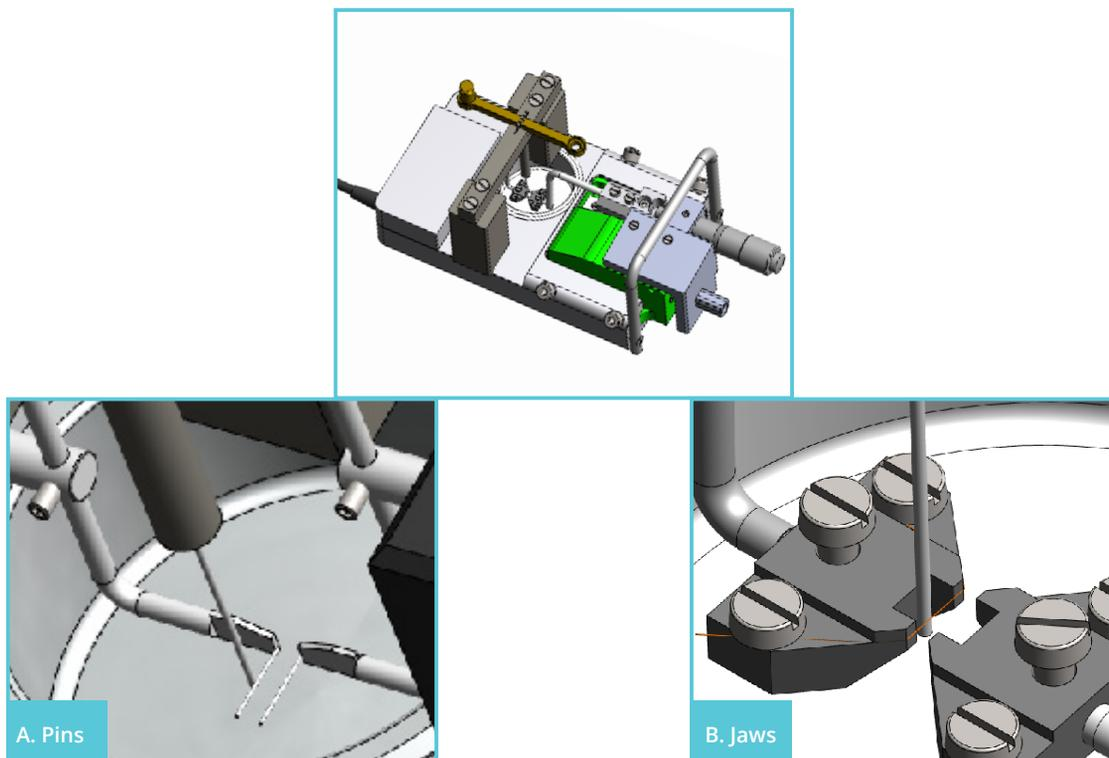

Figure 4.7 - Illustration of the proper placement for the balance transducer arm for calibration
3. When the system reaches target temperature, adjust the calibration kit so that the tip of the transducer arm is as close to the wire (if jaws are being used) or pin on the transducer side as possible without touching, as illustrated in Figure 4.7. One way to do this is to use the following technique. Start with the calibration kit in place so that the transducer arm of the bridge with the pans is not touching any part of the jaw or wire (if the jaws are being used) or not touching any part of the pins. Go to the main menu displaying the forces, and zero the channel being calibrated so the force reads zero. Slowly and gently slide the calibration kit forward toward the micrometer so that the transducer arm rests on the wire or pin, creating a force reading on that channel. Carefully slide the calibration kit back toward the transducer slowly until the force reads zero or very close to zero. At this point, as soon as the force reads zero, the transducer arm will be properly placed for weight calibration.